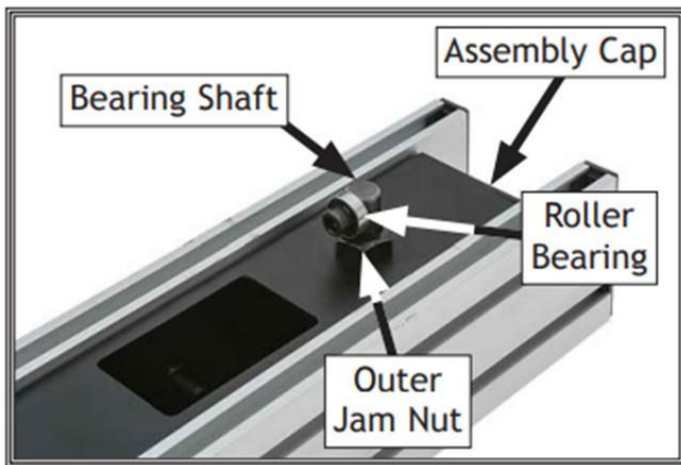

Figure 59: Fence bearing shaft adjustment.
- 6 - Remove fence assembly cap see figure 59. Then loosen inner and outer jam nuts that secure the bearing shaft.